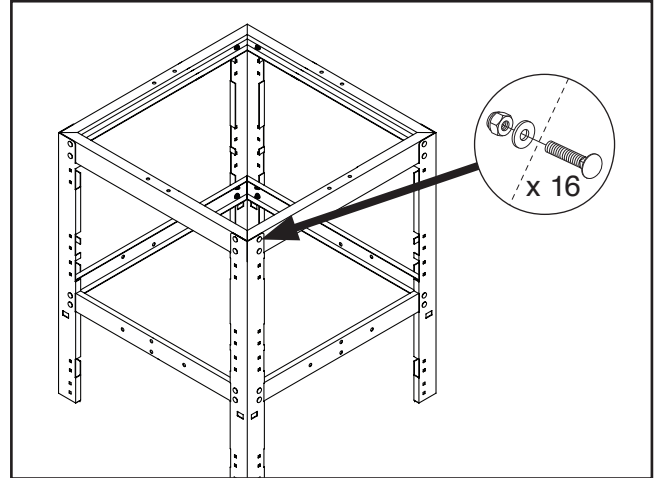

Figure 11. Upper braces attached to stand assembly.
2. Attach upper stand braces to top of assembly from **Step 1**, using (16) $\frac{5}{16}$ "-18 x $\frac{3}{4}$ " carriage bolts, $\frac{5}{16}$ " flat washers, and $\frac{5}{16}$ "-18 hex nuts (see **Figure 11**).